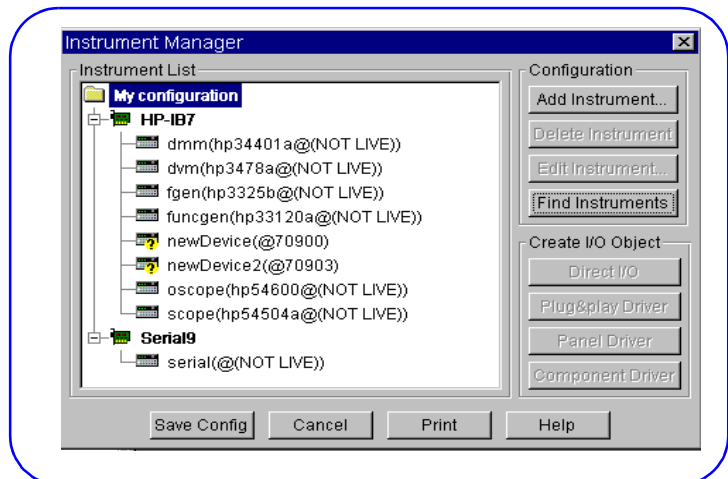

Figure 31. Instrument List Screen
- 2 Be sure *My configuration* is highlighted. Then, click the *Find Instruments* button to find all instruments (see Figure 31).